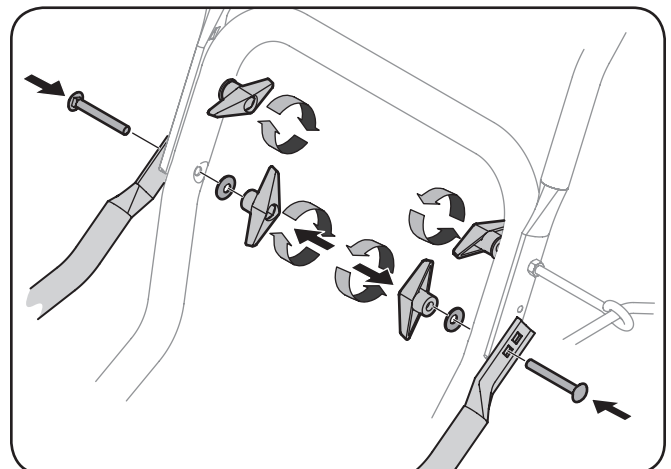

Figure 3-3
5. Secure the upper handle, support tubes and lower handle with the two wing nuts, bell washers and carriage bolts removed earlier. Tighten the two wing nuts already installed in the upper holes to firmly secure the upper handle and support tubes. See Figure 3-3.